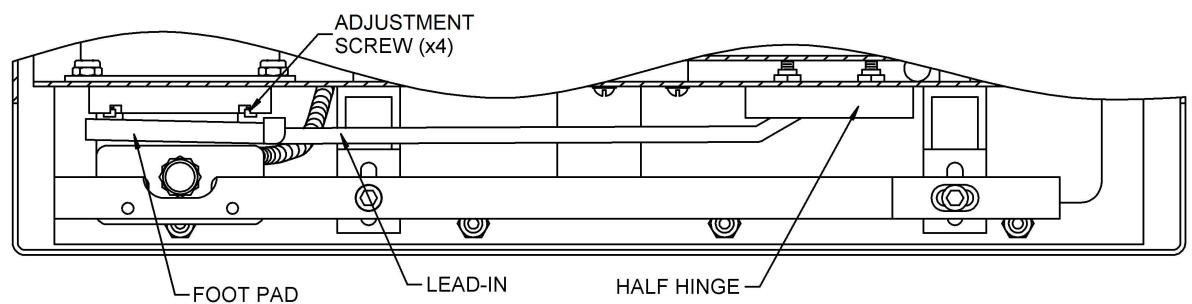

FIGURE 3.1
- 3.0.1 Swing the Bantam line housing across the conveyor so that the line housing is centered over the container line of travel. Lower the Bantam head until the Sensor Foot Pad (Figure 3.1) just clears the top of a test container. Adjust the Bantam diameter adjustment knob so that a container will pass between the Bantam Guide Rails without touching the rails on either side.
To limit the tilt, drop the lead-in (Figure 3.1) and rotate the Sensor Foot Pad until the holes in the pad align with the socket heads of the tilt-adjust screws. Back the screws out until the reduce the amount of tilt allowed to an amount that will cause the Sensor Foot Pad to lift from the low edge of a cocked cap. This will cause the sensor to give a low reading, causing the jar to be rejected.